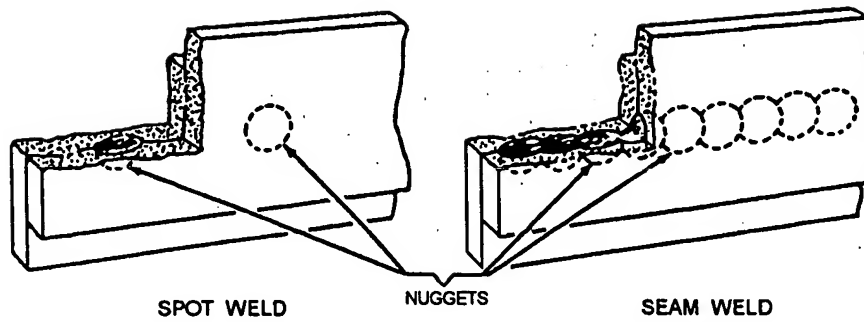

Figure 3-19.—Spot and seam welds.
**Resistance welding** is a metal fabricating process in which the fusing temperature is generated at the joint by the resistance to the flow of an electrical current. This is accomplished by clamping two or more sheets of metal between copper electrodes and then passing an electrical current through them. When the metals are heated to a melting temperature, forging pressure is applied through either a manual or automatic means to weld the pieces together. **Spot** and **seam** welding (fig. 3-19) are two common types of resistance welding processes.